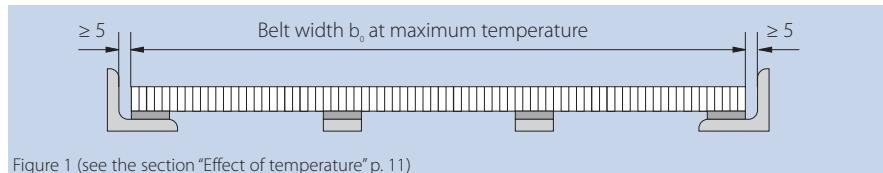

Figure 1 (see the section "Effect of temperature" p. 11)
- Straight parallel runners (figs. 1 + 2) made of steel or plastics. This is an inexpensive solution for applications with minimal loads. The belt wear is limited to the areas where the runners support the belt. We recommend a distance of approx. 120 – 150 mm between the runners for the upper side and approx. 200 mm for the return side.